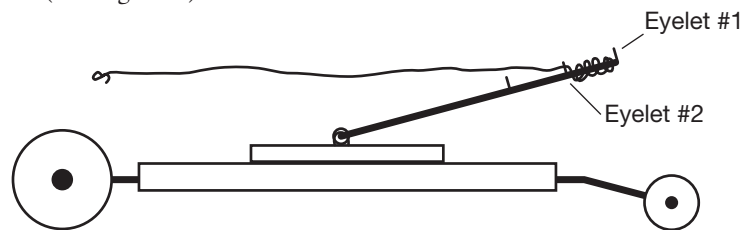

Figure 6.
- Keep the string tied to eyelet #1 and wind it around the lever arm between eyelets #1 and #2 until the loop end of the string just reaches the projection on the small hub. Thread the string through eyelet #2. *Note:* The string should measure 30 cm from the hub to eyelet #2 (see Figure 6).